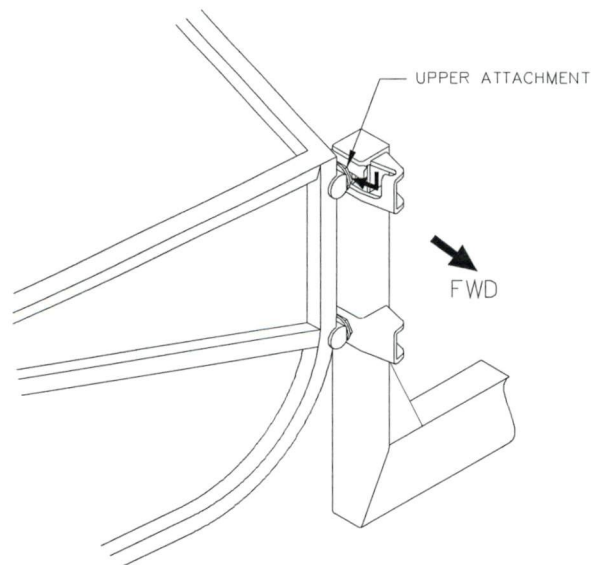

Figure 2 – Basket Forward Attachment
1. Installation - Refer to Figure 2 and 3.
2. Removal - Refer to Figure 2 and 3.